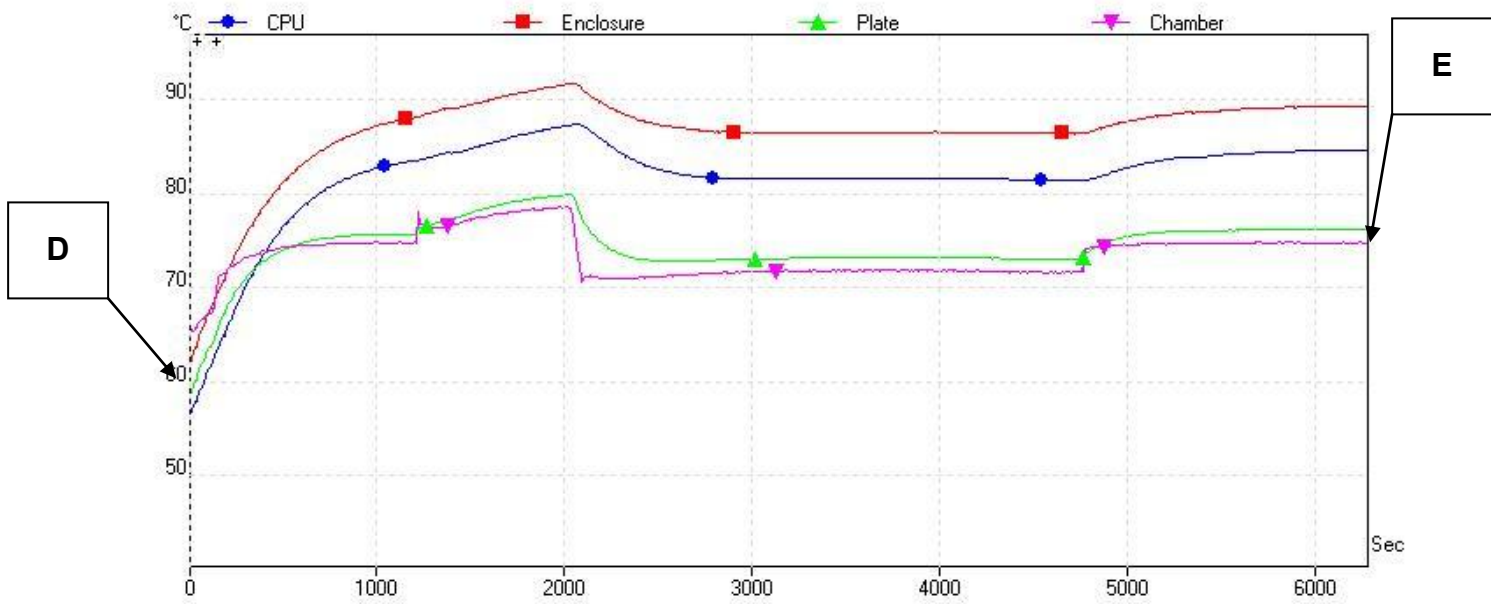

Figure 2
- Added thermal paste between Aurora heat spreader and Pandora bottom plate and then aluminum plate respectively, for better thermal dissipation, leading to the results shown in Figure 2.